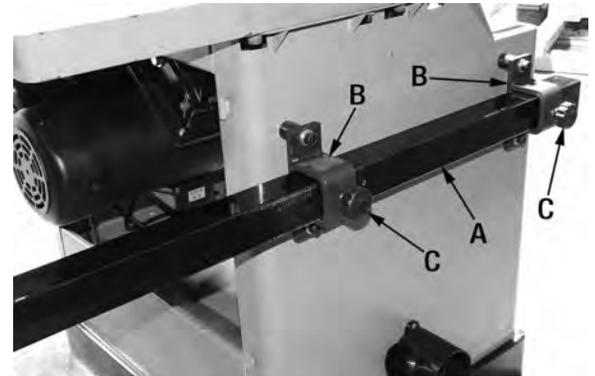

FIGURE 24
7. Slide the overarm tube (A) Fig.24 into the two support brackets (B) and secure it in place by tightening both lock knobs (C).